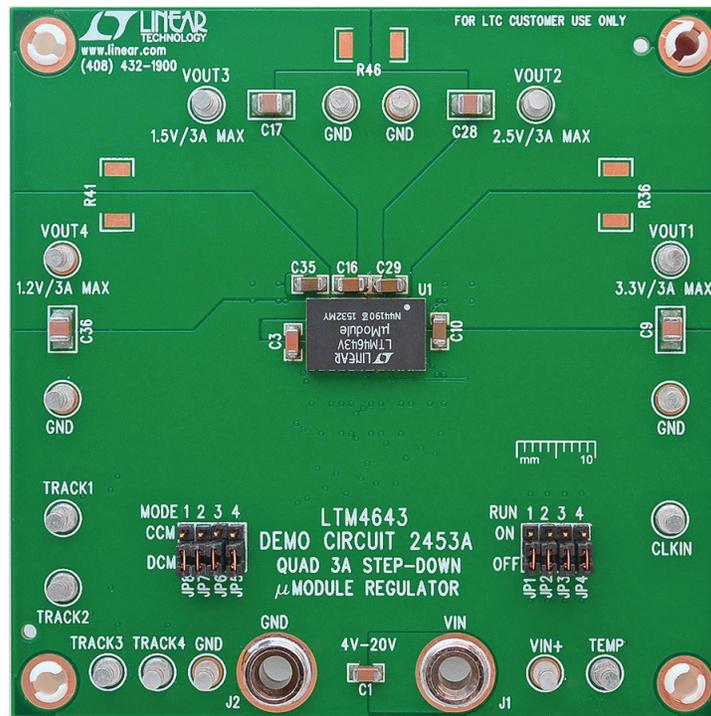

Figure 1. Quad 3A LTM4643; DC2453A
Demonstration circuit 2453A is an easy way to evaluate the performance of the LTM4643EV. Please refer to Figure 1 for test setup connections and follow the procedure below.
3. With power off, connect the loads, input voltage supply and meters as shown in Figure 1.